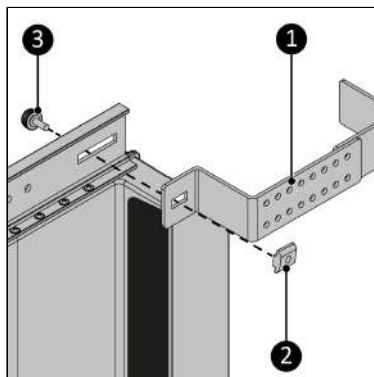

Figure 97.
6. Screw the bracket (Figure 97, pos. 1) to the main rail in the front position using the knob screw (Figure 97, pos. 3). Make sure you connect the knob screw to the slide nut (Figure 97, pos. 2).